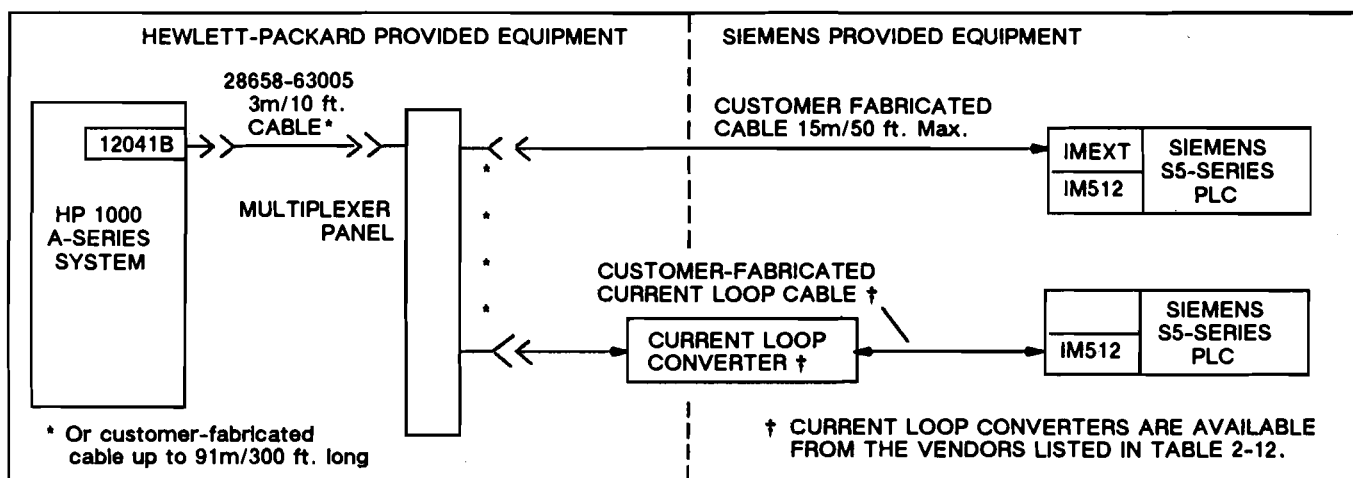

Figure 2-6. Connection of Siemens PLCs to HP 1000 A-Series System
**Siemens:** S5-110S, -115S, -130W, -150A, -150K, -150S, and -150U PLCs connected as shown in Figure 2-6 when the HP 94204A Siemens PLC Device Handler is configured with the HP 94200B PCIF/ 1000 Configurator/Monitor.